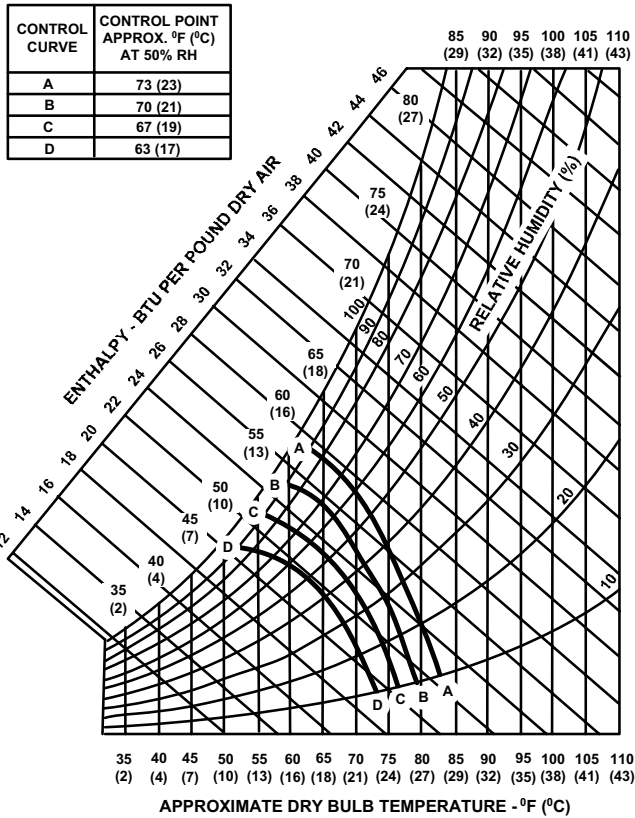

Figure 24: Enthalpy Set Point Chart
- The enthalpy set point may now be set by selecting the desired set point shown in the Enthalpy Set Point Adjustment Figure 24. Adjust as follows: